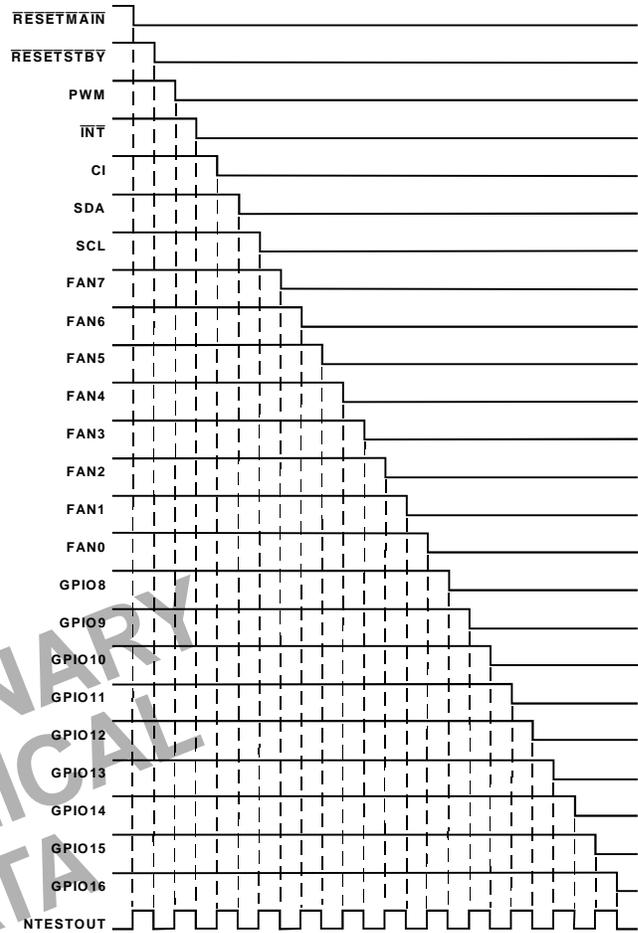

Figure 23. NAND Tree Test taking Inputs Low In Turn
1. Start with all inputs high and take them low in turn, starting with the input furthest from NTEST_OUT (RESETMAIN) and working down the tree to the input nearest to NTEST_OUT (GPIO16/THERM). This should give a similar output pattern to Figure 23.